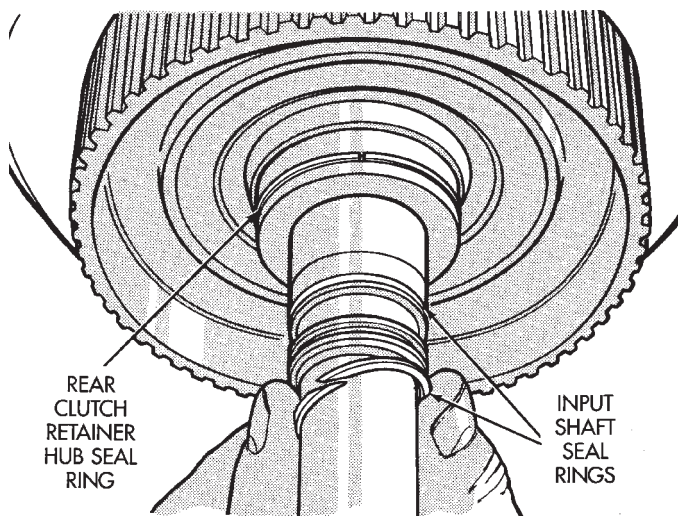

Fig. 217 Rear Clutch Retainer And Input Shaft Seal Ring Installation
- (1) Soak clutch discs in transmission fluid while assembling other clutch parts.
- (2) Install new seal rings on clutch retainer hub and input shaft if necessary (Fig. 217).